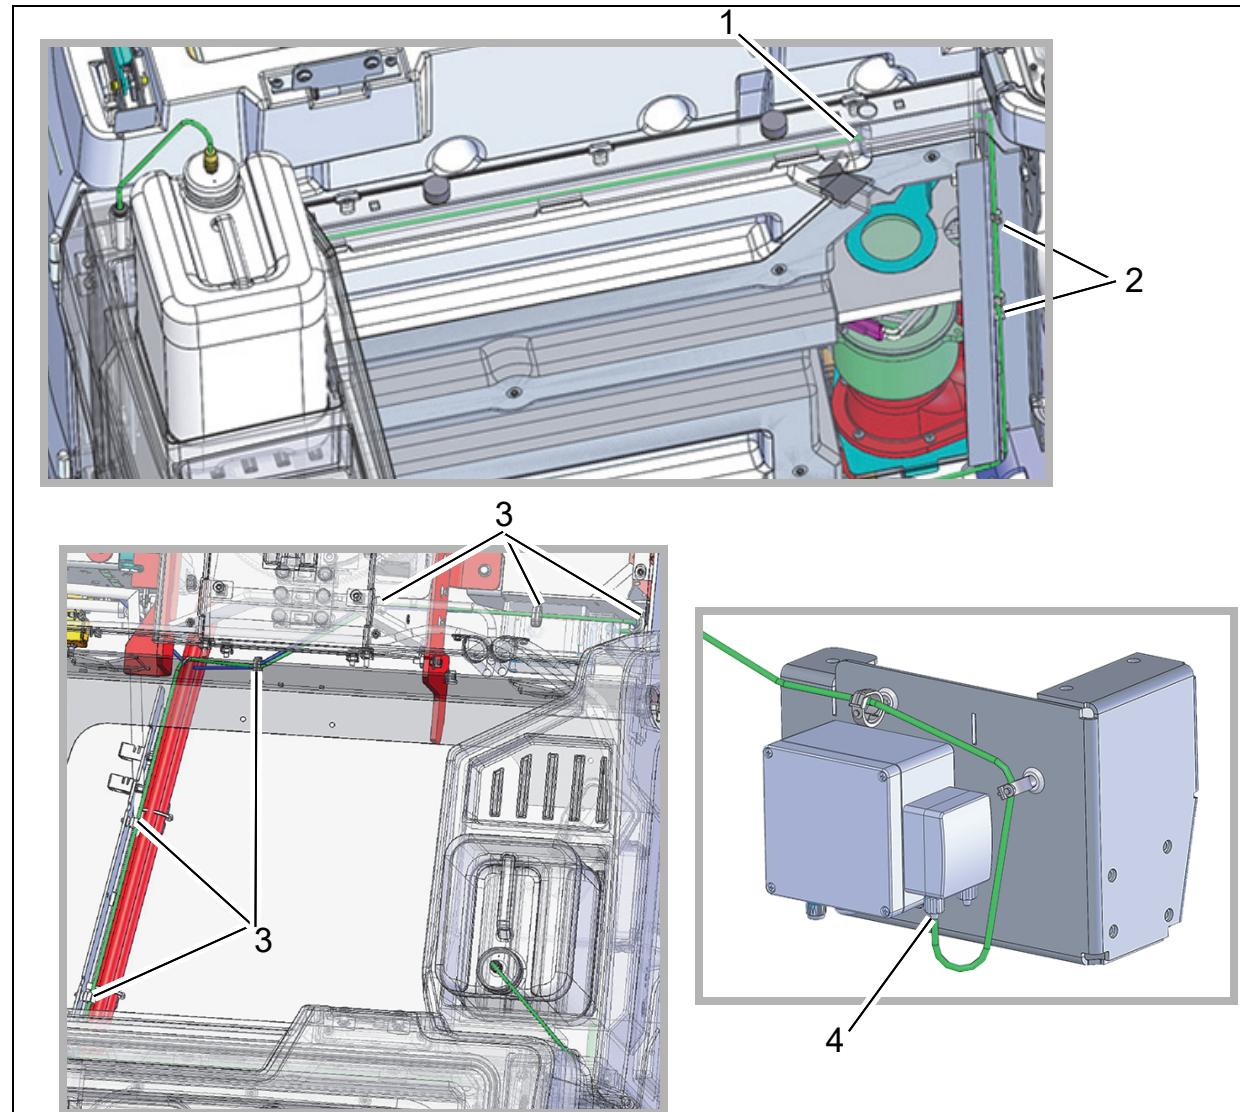

Fig. 5
1. Feed the remaining dosing hose through the hole into the channel behind the cover plate (Fig. 5/1).
2. Guide the dosing hose downwards in the channel towards the cable bridge and secure it with the existing cable holders (Fig. 5/2).
3. Feed the dosing hose along the cable bridge through the installed cable bundle holder (Fig. 5/3) up to the dosing pump and then connect it to the left-hand connection (Fig. 5/4).